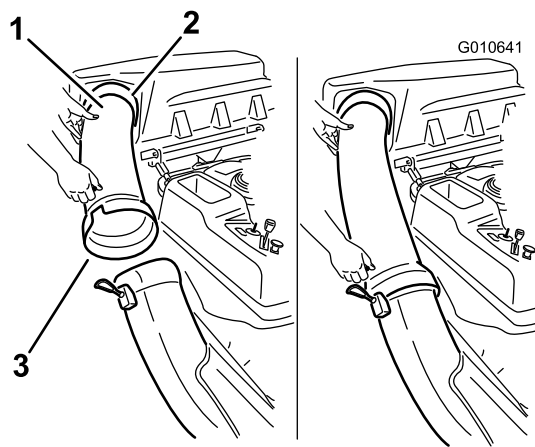

Figure 20
1. Slide the curved end of the discharge tube into the opening in the bagger top (Figure 20).
2. Slide the flared end of the discharge tube over the end of the chute. Move the rubber retaining strap on the chute snaps over the peg on the discharge tube to secure it (Figure 20).